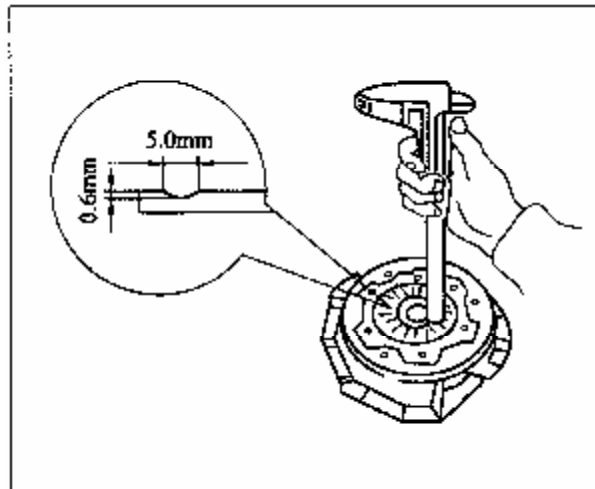

Figure 3-64 Measure Wear on Diaphragm Spring
3.10.3 Check diaphragm spring for wear. As shown in Figure 3-64, measure depth and width of wear on diaphragm spring with a caliper. The maximum value: depth 0.6mm, width 5.0mm.